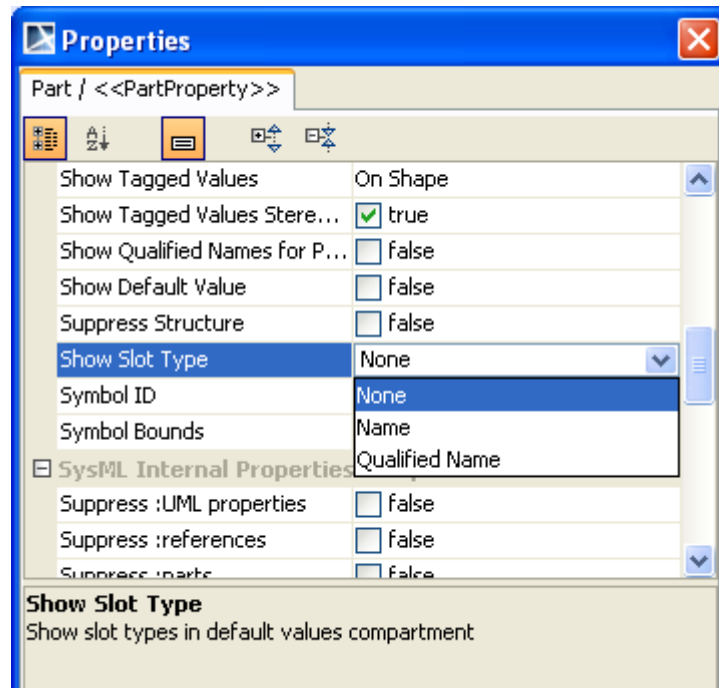

Figure 231 -- Symbol(s) Properties Dialog - Show Slot Type
2. Three display modes are available in the **Symbol(s) Properties** dialog (Figure 231):